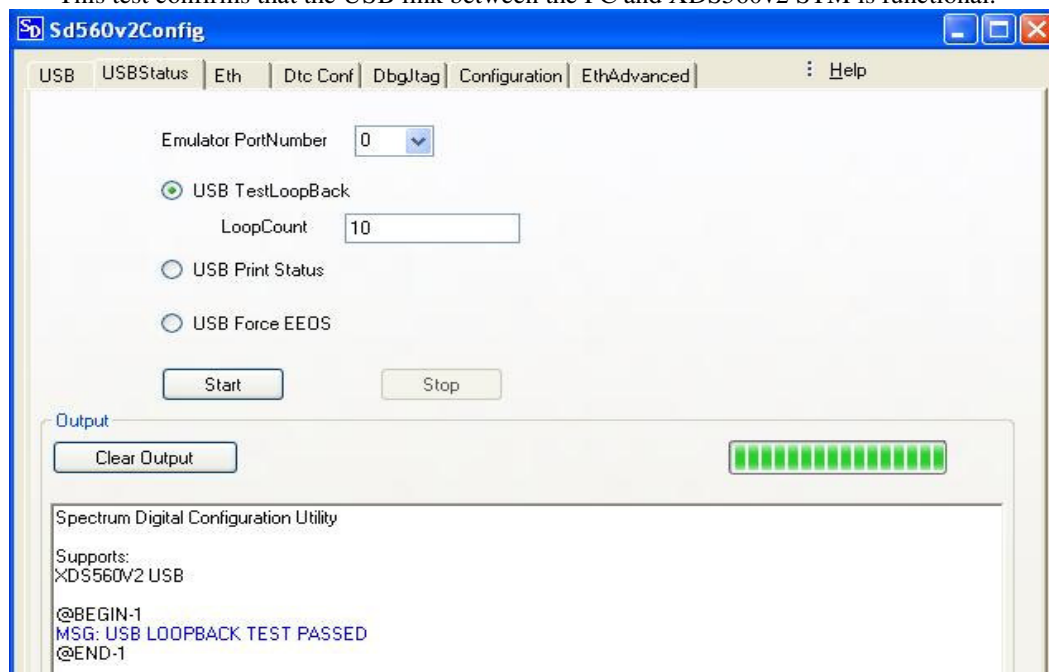

FIGURE 6: Sd560v2Config utility to test USB Loop Back
- The results are shown in Figure 6 below.